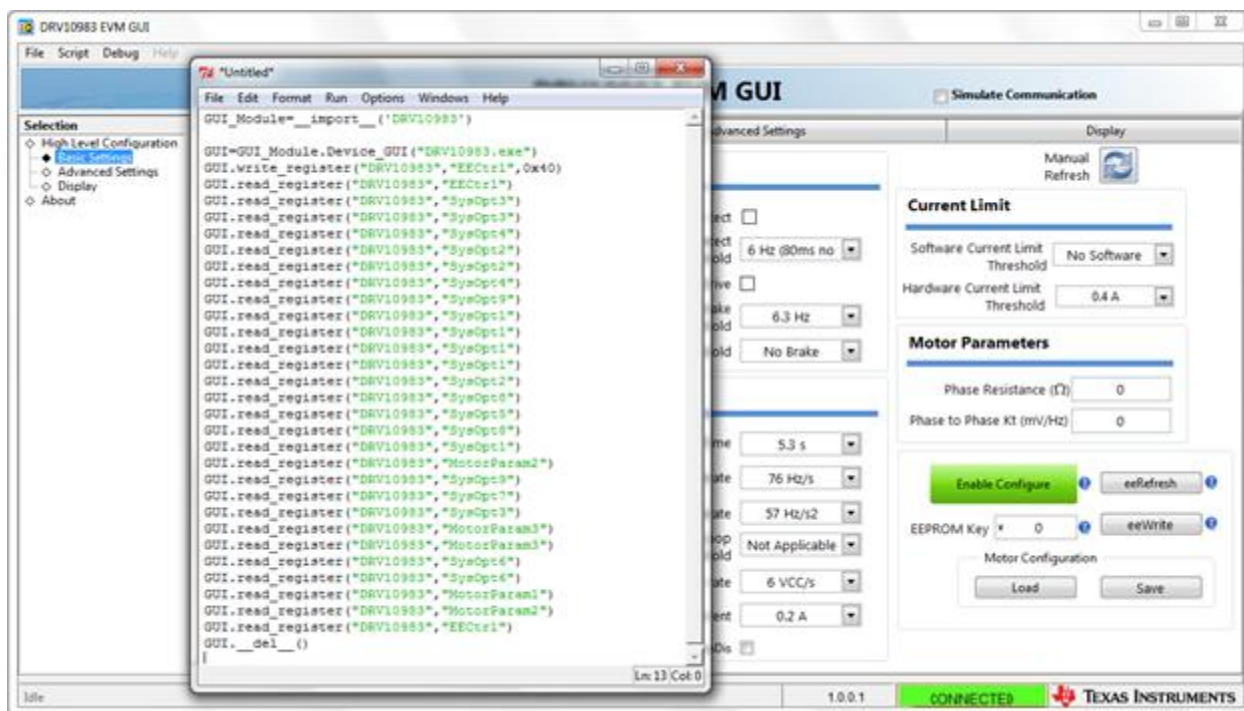

Figure 2-11 Stop Recording
2. The Launch Window will still remain after the recording has been stopped as shown in Fig.2-11. It can be closed with/without saving, else we can also continue recording.